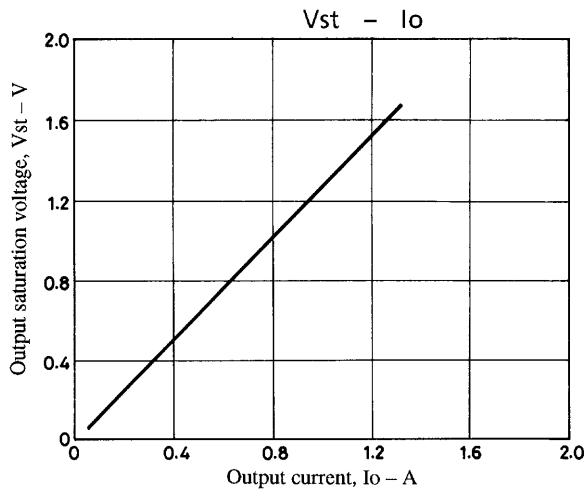

Fig. 8
The characteristic diagrams (typ) for I_{OH} and V_{st}, and I_{OH} and V_{df} are given in Figs. 8 and 9.
Referring to Figs. 8 and 9, each value for V_{st} and V_{df} is determined by expression (10) as follows :